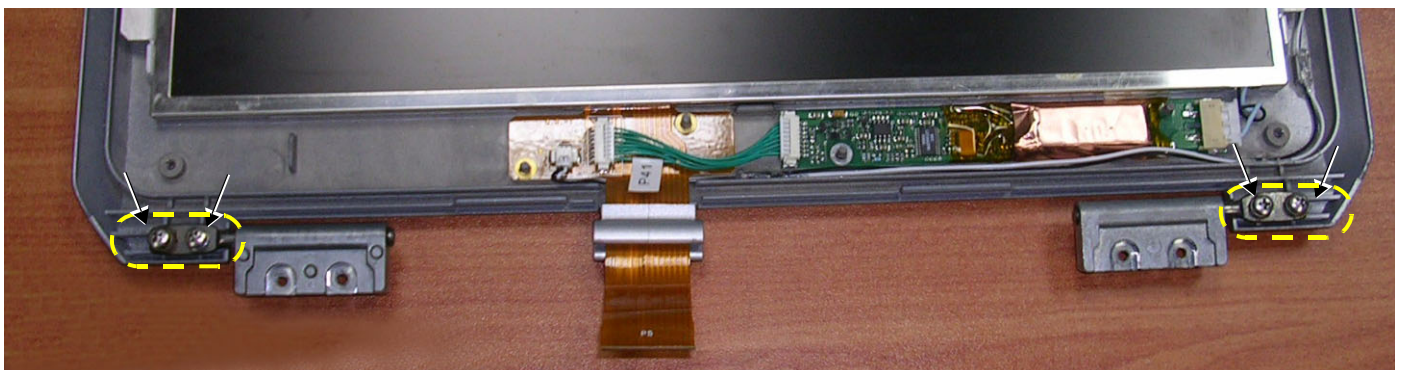

Figure 8-26 Hinges Secured to LCD Display Cover - Location of Screws
- 5.) Loosen and remove the 2 screws that secure the *left* hinge to the LCD Display cover (Figure 8-26), then carefully remove the hinge.
- 6.) Loosen and remove the 2 screws that secure the *right* hinge to the LCD Display cover (Figure 8-26), then carefully remove the hinge.
- 1.) While supporting the LCD Display cover with one hand, carefully place a replacement hinge in the correct position on the *Left* side of the LCD Display cover (refer to Figure 8-26 on page 8-22).
- 2.) Carefully place a replacement hinge in the correct position on the *Right* side of the LCD Display cover (refer to Figure 8-26).